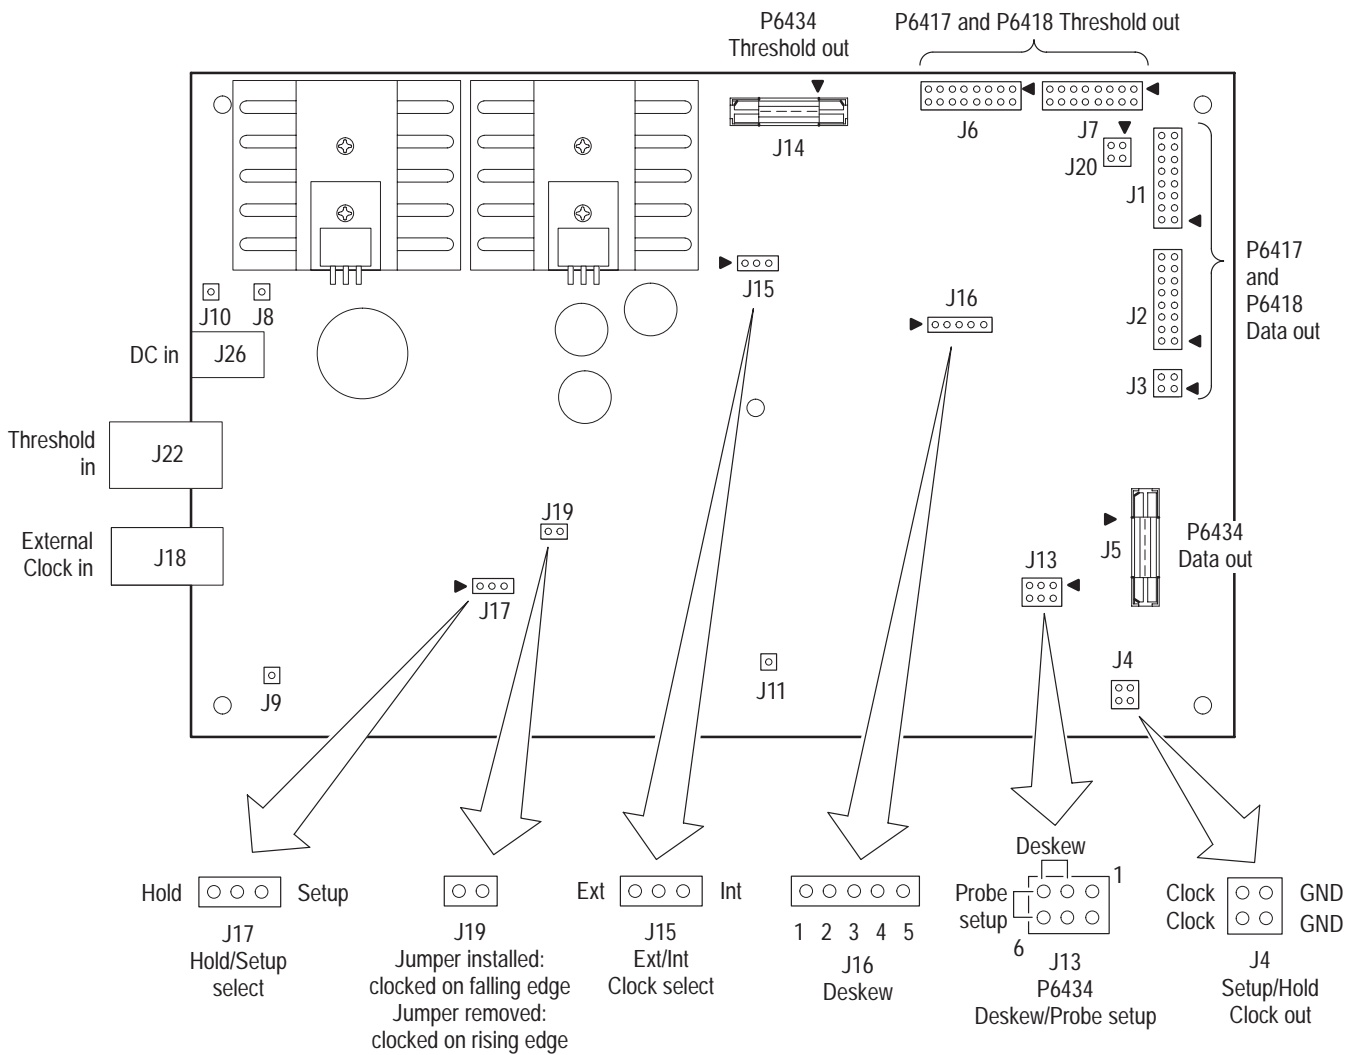

Figure 6-4: Adjustment/verification fixture connections and jumper locations
3. If you are using the adjustment/verification fixture, verify the LED is lighted, the jumper positions match the on-screen instructions, and the external connections are correct. (See Figure 6-4 for jumper locations.)